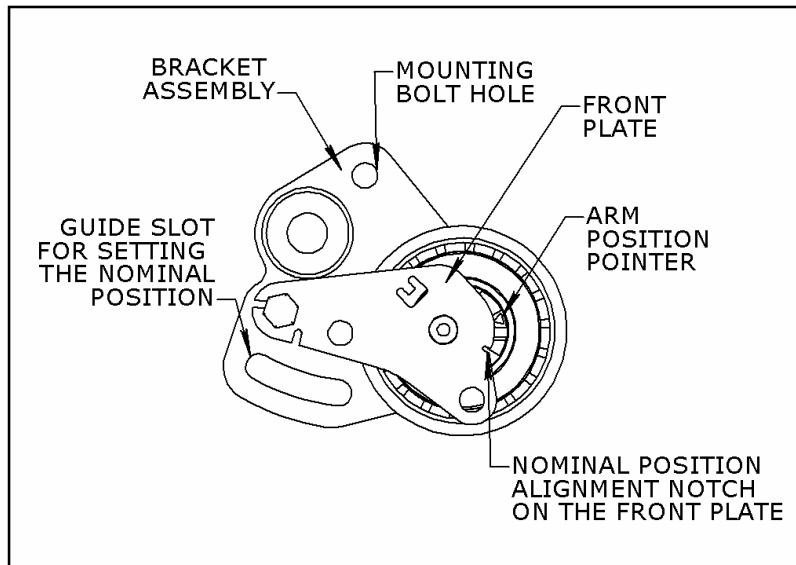

Figure 2: Timing Belt Tensioner
5. Mount the new timing belt tensioner (Figure 2) on the engine with the 2 M8 mounting bolts.